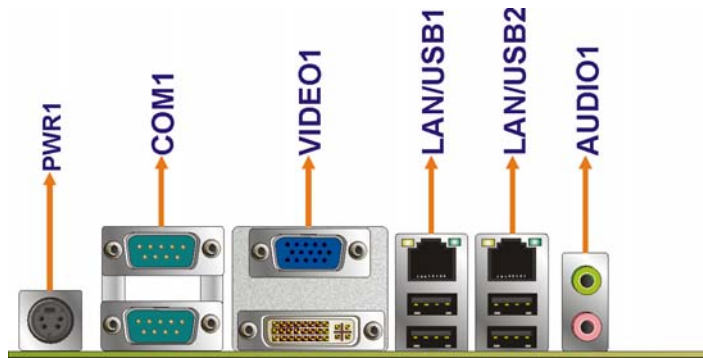

Figure 4-24: eKINO-945GSE External Peripheral Interface Connector
Figure 4-24 shows the eKINO-945GSE external peripheral interface connector (EPIC) panel. The eKINO-945GSE EPIC panel consists of the following:
CN Location:	See Figure 4-24
CN Location: See **Figure 4-24**
- CN Location:** See **Figure 4-24**